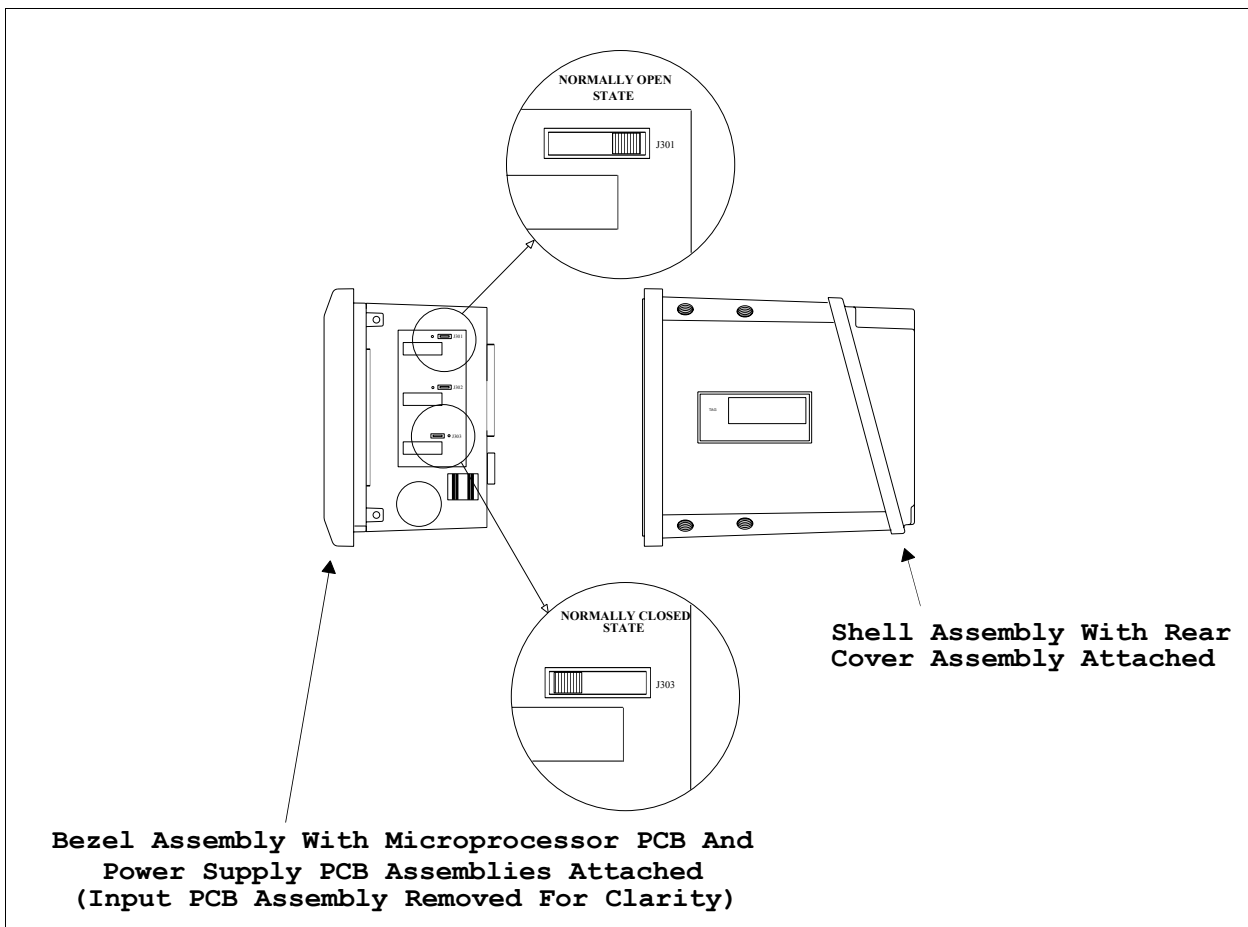

Figure 3-6. Normal State Relay Jumper Location.
Using Figure 3-6 as a reference, change the normal state of any relay output as follows:
- 3) Identify the Power Supply PCB Assembly and relay state switches using Figure 3-6.